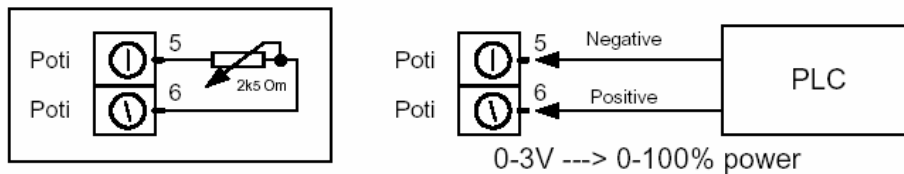

FIG 1
1. When using the PLC voltage output (for MMM generator, power control), the changes of the output voltage between 0 and 3V will cause changes in the generator power from 0 to 100%. Note: Voltage above 3V will initiate generator's digital assignment for switching ON. (see Fig.1)